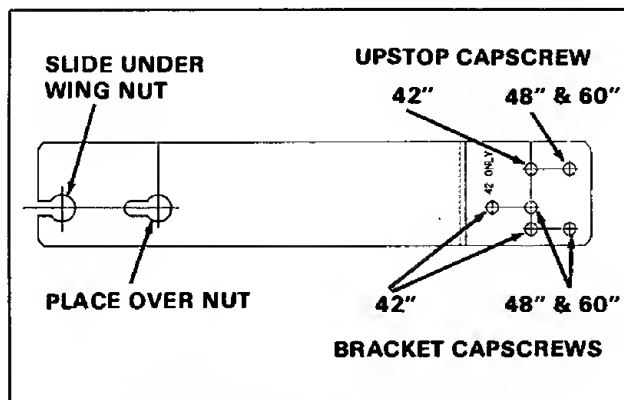

Figure 14. (Typical Bracket Shown)
- b. Install bracket with two 1/4-20 x 3/4 trusshead screws and 1/4 locknuts. Refer to figure 14 for correct cap screw location for mower size.
- a. Install upstop (I) with one 1/4-20 x 7/8 cap screw (K), 1/4-20 x 5/8 cap screw (L) and 1/4 locknuts. Note that cap screw (K) goes through bracket. Refer to figure 14 for correct location for mower size.